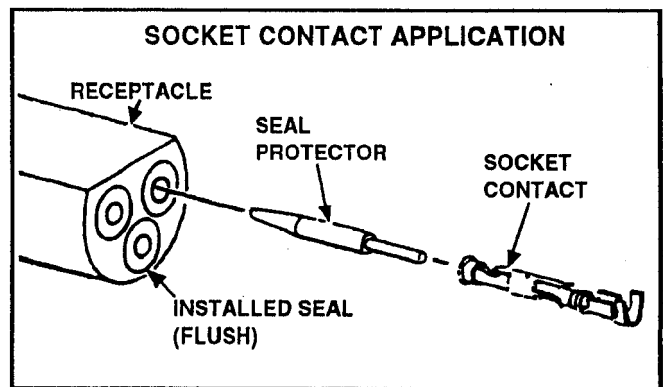

Figure 2
STEP 5: Measure out the control cable required for your installation. (See Specifications.) Stretch the cable out to its full length when testing. Strip the wires on both ends as shown in Figure 2. Attach one end to the 10 pin connector and the other end to the 8
Attach the other wire ends to the AMP socket contacts, Figure 2. The maximum wire size that should be used with these is 14 AWG, with a maximum insulation diameter of 0.135 inch. Crimp and solder these socket contacts securely to each wire.
Before inserting a socket contact into the receptacle, install the AMP seal protector (sheath) (PN 650294) in the socket portion of the contact as shown in Figure 2.